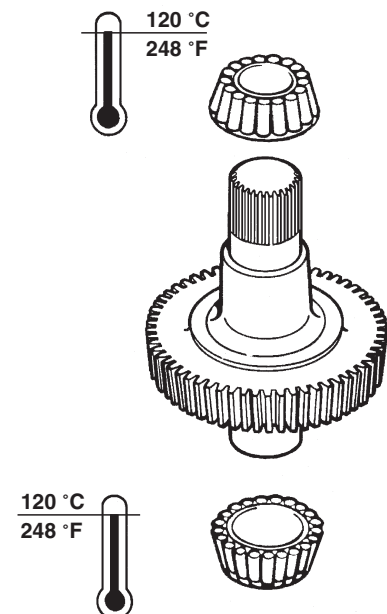

FIG. 3-1
Heat inner races of tapered roller bearings (item 1 and 2, Fig. 3-1) to approx. 120 °C (248 °F) and push them onto output shaft up against shaft collar.